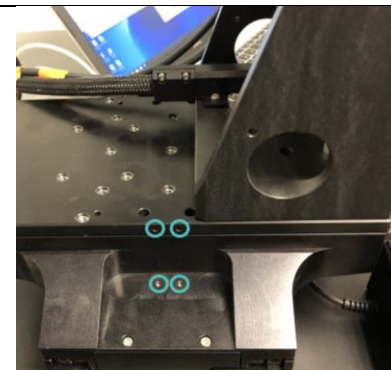

Fig 5. Align screw holes.
- Align the holes of the stage lock with the holes in the secondary stage (Fig 5).